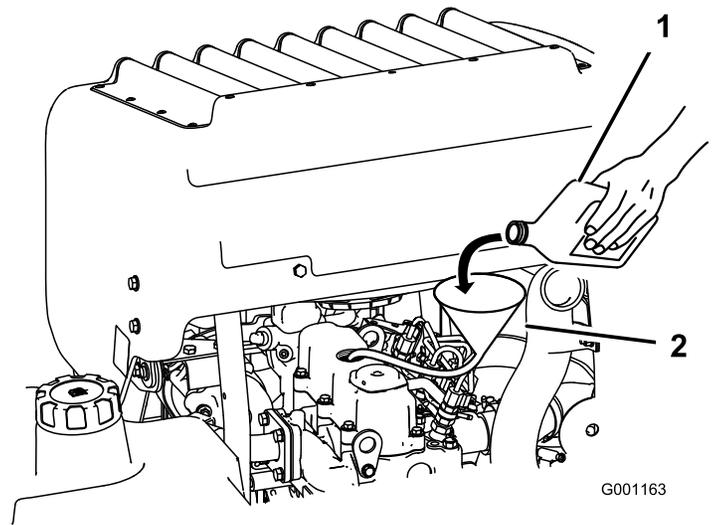

Figure 43
3. To add oil to the engine, locate and use a hose and funnel for adding oil (Figure 43).